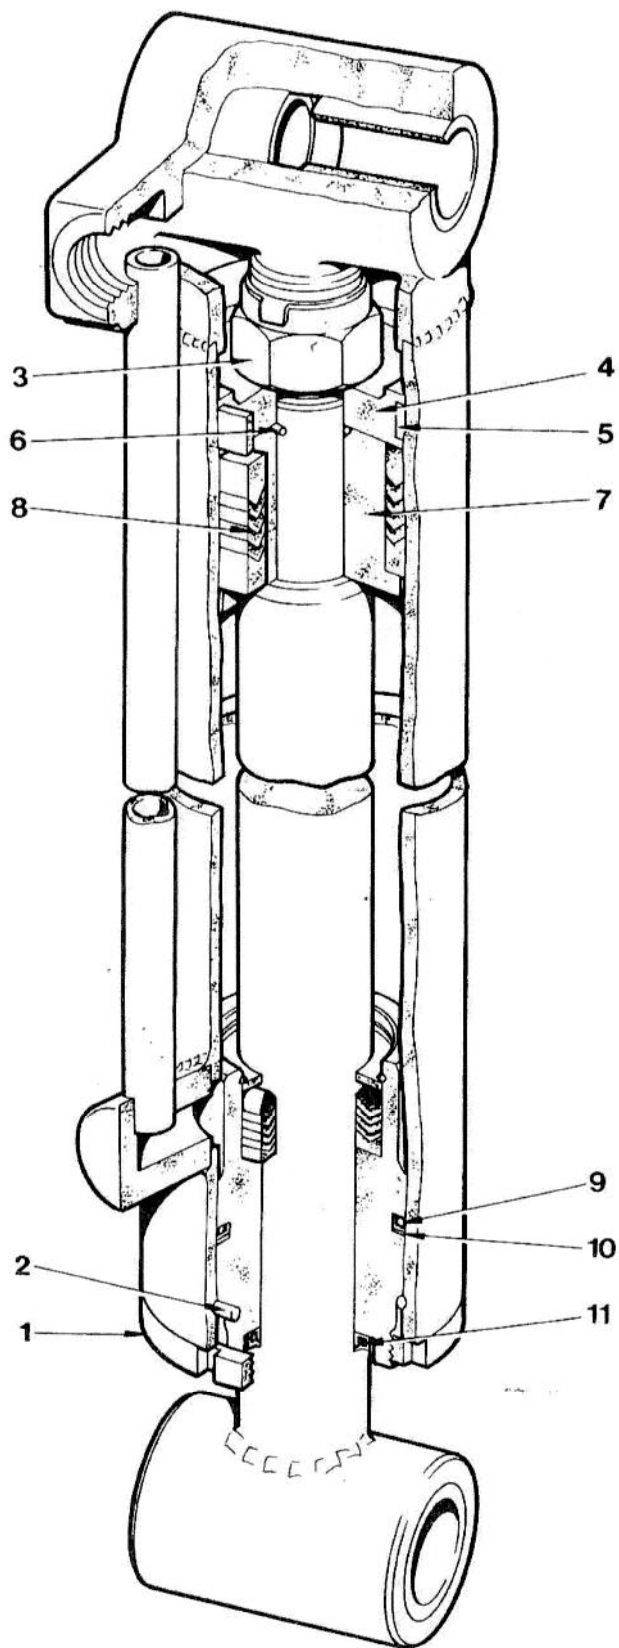

FIG 18
3. (Fig. 18) With a 'C' Spanner turn the bearing nut (1) in an anti-clockwise direction, remove it from the bearing and rest it on the piston rod.
4. Tap the bearing approximately 1½" (38.1 mm) into the barrel to allow the removal of the lock ring. (2).
7. Clamp the piston rod assembly securely in a vice, remove the nut (3) piston (4) complete with wear ring (5) 'O' ring (6), packing retainer (7) complete with packing (8).
9. Remove the 'O' ring (9), back up washer (10), wiper seal (11), snap ring (12), washer (13) and packing (14) from the body (15).
2. (Fig. 18) Slide the bearing nut (1) and lock ring (2) onto the piston rod.
3. Fit new packing (14), washer (13), snap ring (12), new wiper seal (11), new back up washer (10) and new 'O' ring to the body (15).
5. Fit new packing (8) onto packing retainer (7) and slide up to the shoulder on the piston rod. Fit new 'O' ring (6).
6. Fit new wear ring (5) onto the piston (4), slide it onto the rod and secure with nut (3). Torque to 300 - 330 lb.ft. (41.49 - 45.6 kg.m.).